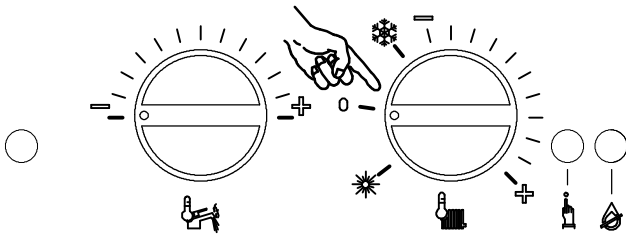

Fig. 58
- 1 Set the function selector of the boiler in stand – by mode (Fig. 58).